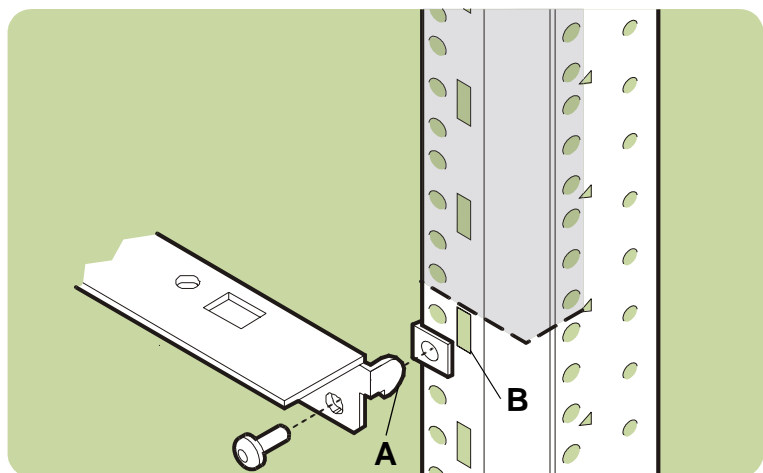

Fig. 25. Installing rails in HP Computer Cabinet
5. On the ends of both rails, insert the rail tab (see Fig. 25, A) into the column hole (B).